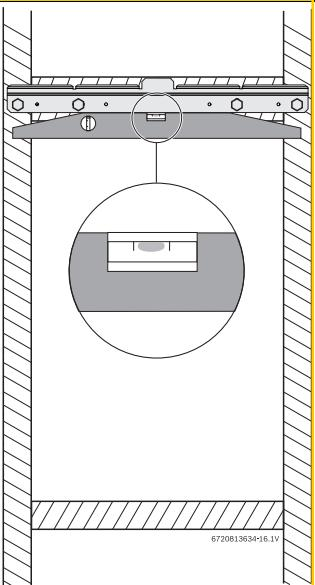

Fig. 8 Leveling wall mounting bracket
- Secure the wall mounting bracket provided with the heater to a wall surface. The heater must be kept level on the wall surface, see fig. 8, page 18.